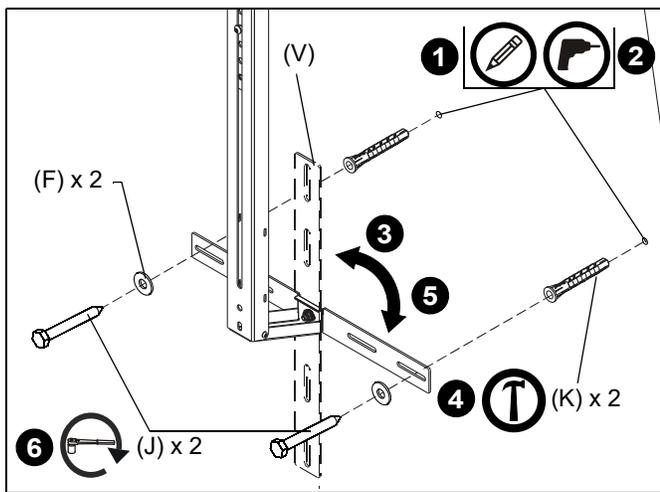

Figure 26
- Mark the wall through the lower wall bracket (V) on each upright assembly (P). (See Figure 26)
- Drill one 5/16" x 2-3/4" pilot hole at each marking. (See Figure 26)
- Loosen and rotate the lower wall bracket to allow installation of the UX8 x 50R anchors (K). (See Figure 26)
- Install one anchor (K) into each pilot hole using a hammer. (See Figure 26)
- Use two 1/4" x 2-1/2" lag bolts (J) and two 1/4" flat washers (F) to attach each lower wall bracket (V) to anchors in wall. (See Figure 26)